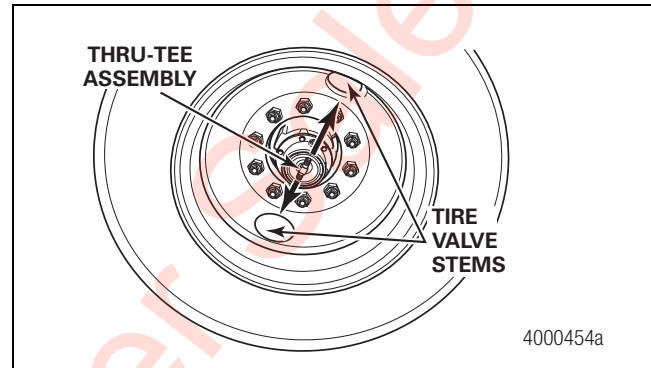

Figure 2.49
- The air fittings must point TOWARD the tire valve stems. Check that the tire valve stems are 180 degrees opposite each other. The valve stems must be in this position to install the tire inflation system. Figure 2.49. If necessary, bolt-on hubcaps or wheels may be "clocked" to align the thru-tee with the tire valve stems. Screw-on hubcaps may be rotated for this alignment, as long as the hubcap tightening specification is within the hubcap manufacturer's recommended guidelines.